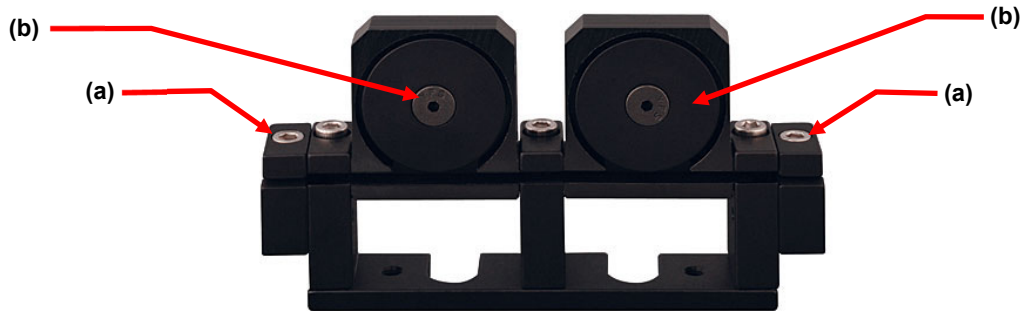

Figure 8 Front View of FPC020
1. Position both paddles vertically and align the grooves (see Figure 8).
2. Loosen the 4-40 clamp screws (marked a in Figure 8) at each end. If you are having problems getting the fiber into the spool, you can loosen the 4-40 screw holding the spool cover in place (b), but this should not be necessary.